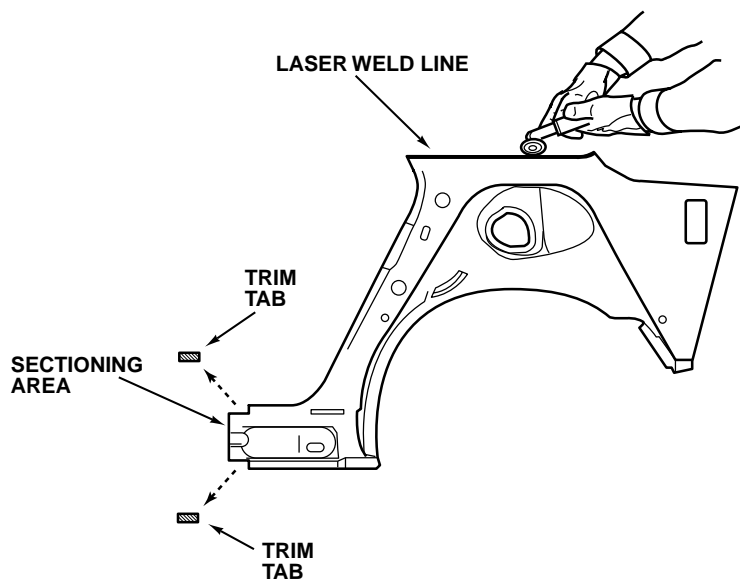

Fig. 1-19 — 2000 DeVille Outer Wheelhouse Preparation
1. Locate laser weld line on service part (Fig. 1-19).